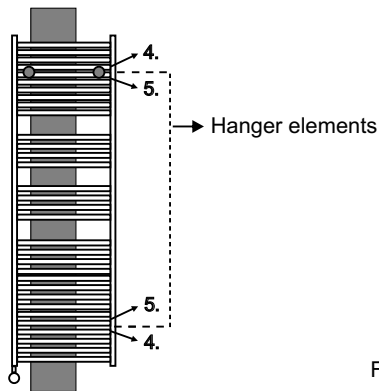
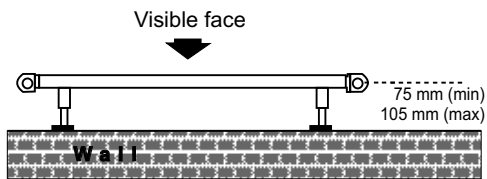

Figure 3a
Figure 5
- 5** The connection of radiator to the installation shall be made from the bottom ends, using the inlet and return valves (Figure 3a). The distance between the center line of radiator connection place and the wall should be min. 75 mm (Figure 5).